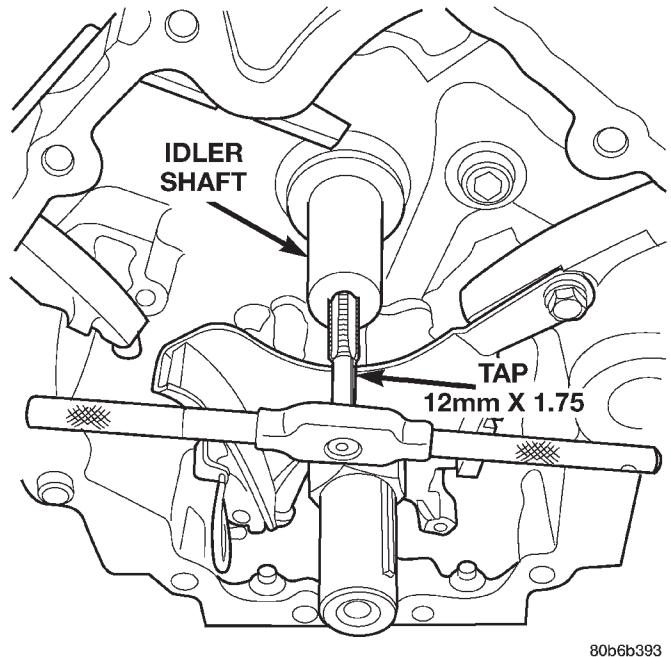

Fig. 75 Tapping Idler Shaft For Special Tool 8517
- (2) Using a 12 mm X 1.75 tap, cut threads in the idler shaft center bore (Fig. 75).